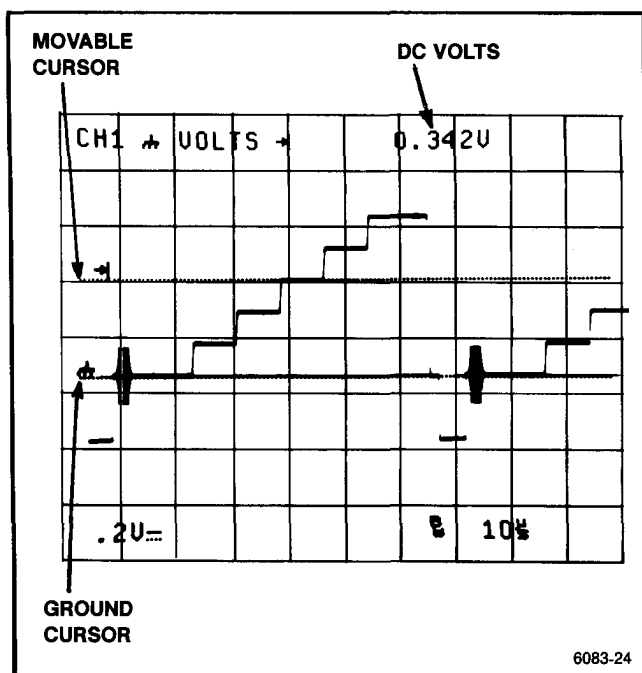

Figure 6-10. Instantaneous dc voltage measurement.
3. Position the independent cursor using the →| or Δ control to the measurement point on the waveform and read out the dc value of the cursor position (shown in Figure 6-10). (The ← or DELAY control has no effect.)
The test signal used for illustration purposes shown in Figure 6-10 is a video test signal. For triggering on video waveforms, select TV LINE Trigger COUPLING and negative Trigger SLOPE; for other signal types, no change of COUPLING or SLOPE is required.